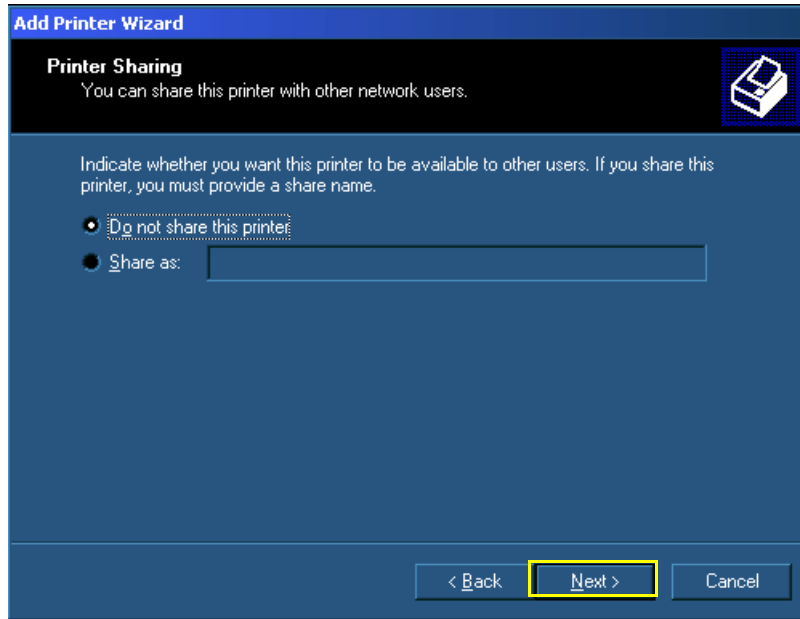

Figure 8-187 Printer Sharing Message
18.)When the following message appears, verify that **Do not share this printer** is selected, as shown in Figure 8-187.